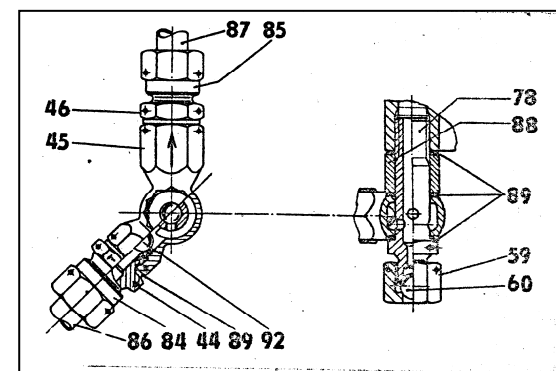

FIGURE 12-28
- (1) Remove lock wire from the turning screw [78] (figure 12-28) and from the both tube cap nuts.
- (2) Remove the tube [86] (to the feathering pump LUN7840-8). Remove the tube [87] (to the feathering valve LUN7880-8).
- (3) Remove the turning screw [78] together with parts [45], [46], [44], [59], [60], [88] and remove defective sealing rings [89]. Be careful for the ball [92].
- (4) Install new sealing rings [89] onto the turning screw [78] and the feedback body [45] with ring [88] in position shown, it is arrow up – figure 12-28 – and screw the turning screw into the governor body without final tightening. The ball 92 shall be in socket [44].